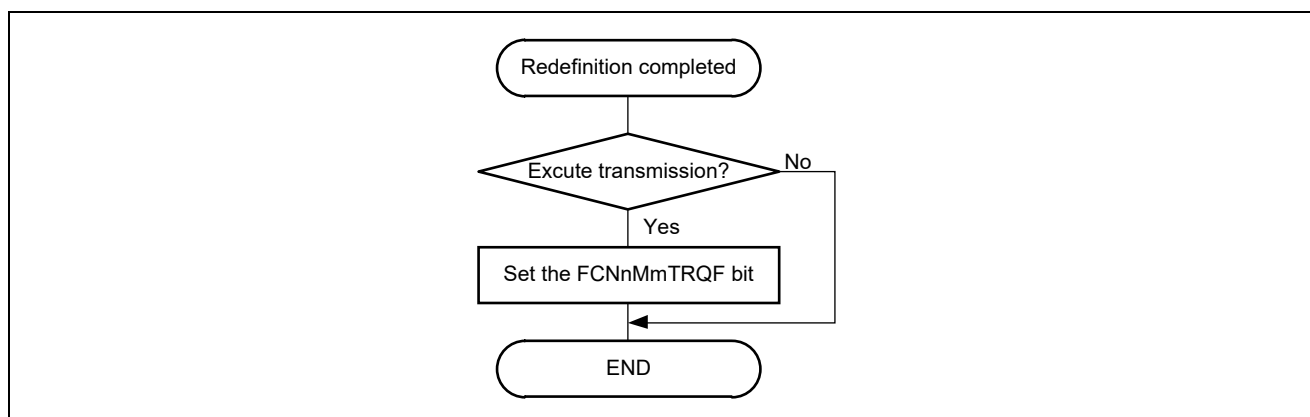

Figure 25.4 Setting Transmission Request (FCNnMmCTL.FCNnMmTRQF) to Transmit Message Buffer after Redefinition
2. When a message is transmitted, the transmission priority is checked in accordance with the ID, IDE, and FCNnMmSTRB.FCNnMmSSRT set for each transmit message buffer to which a transmission request was set. The transmit message buffer having the highest priority is selected for transmission. If the procedure in Figure 25.4, Setting Transmission Request (FCNnMmCTL.FCNnMmTRQF) to Transmit Message Buffer after Redefinition, is not followed, a message with an ID having the highest priority may not be transmitted after redefinition.